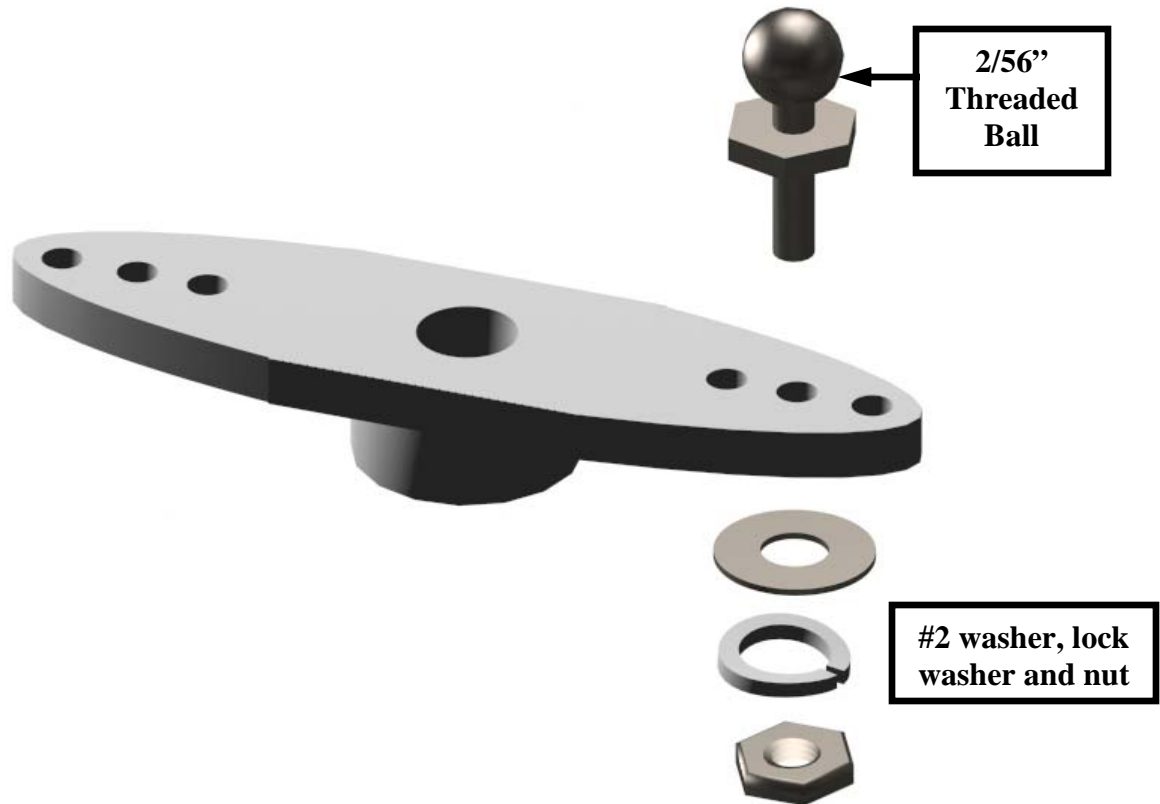

Figure 43
2. Attach the ball link with the #2 washer, lock washer and lock nut (Figure 43). The ball should be orientated towards the flat side of the servo arm.